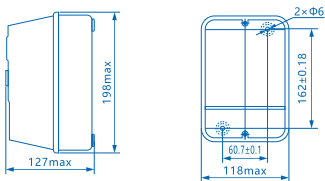

Figure 1 Outline and Installation Size of the Controller
3.1 Outline and installation size: see Figure 1, unit: mm.